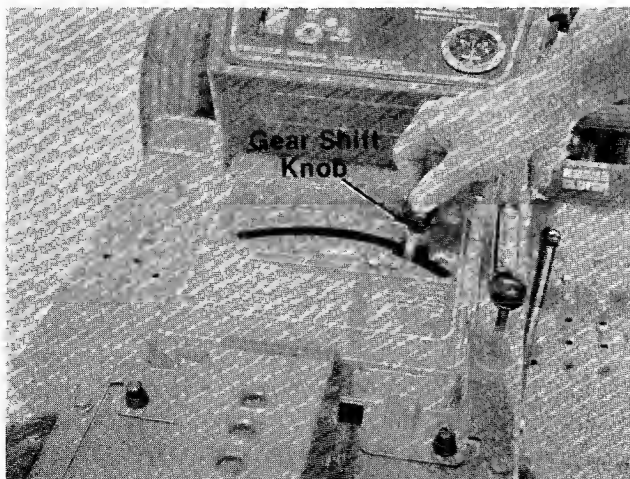

FIGURE 5.
1. Place gear shift lever in the "neutral" position. Unscrew the gear shift knob. See figure 5.